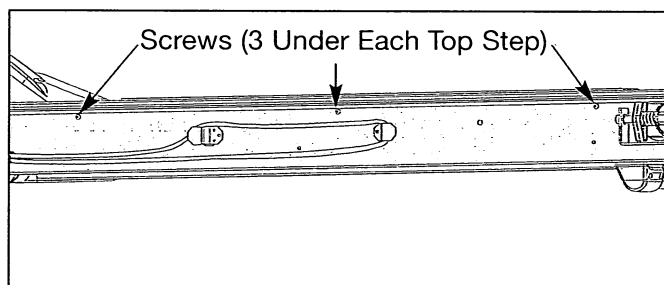

Figure 4
A. Using a Phillips head screwdriver, remove the three screws that hold each top step in place. See Figure 4.
- A. Place each top step in position. See Figure 4.
- B. Using a Phillips head screwdriver, tighten the three screws that hold each top step in place. See Figure 4.